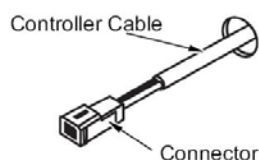

Fig. 2
3. Run the cable provided through the hole in the wall ensuring that the end fitted with the connector is nearest the controller (fig.2).